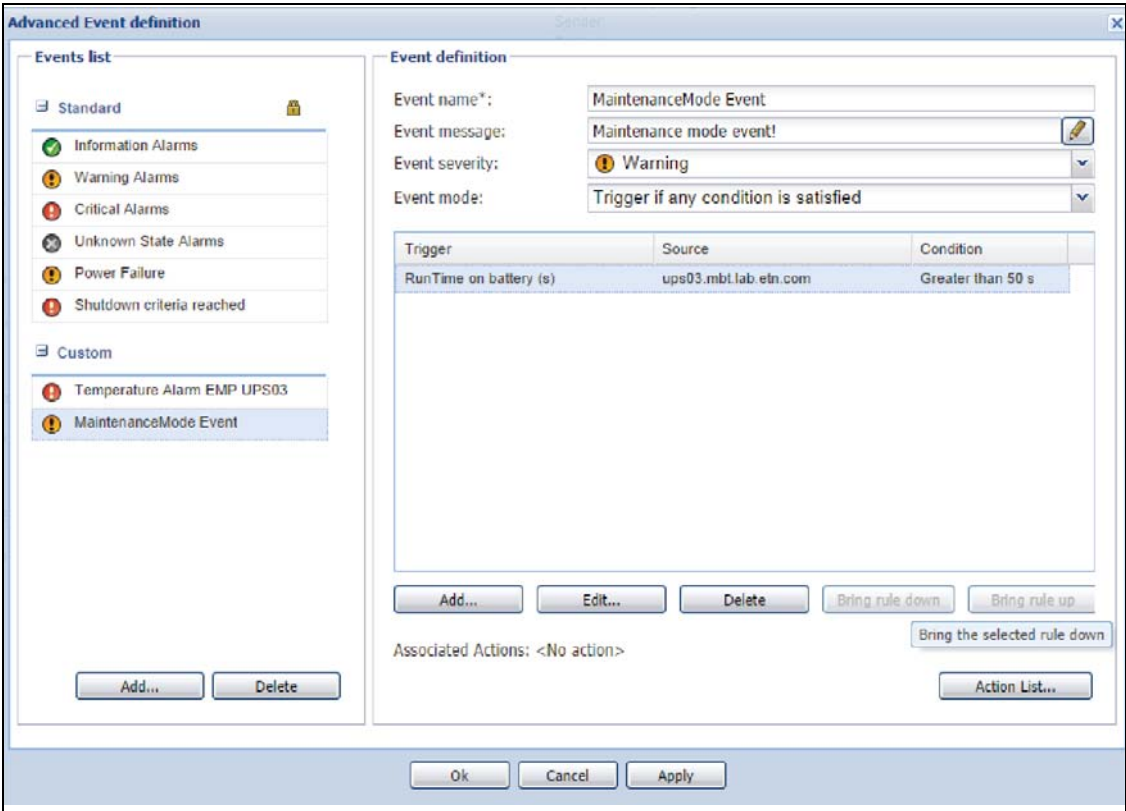
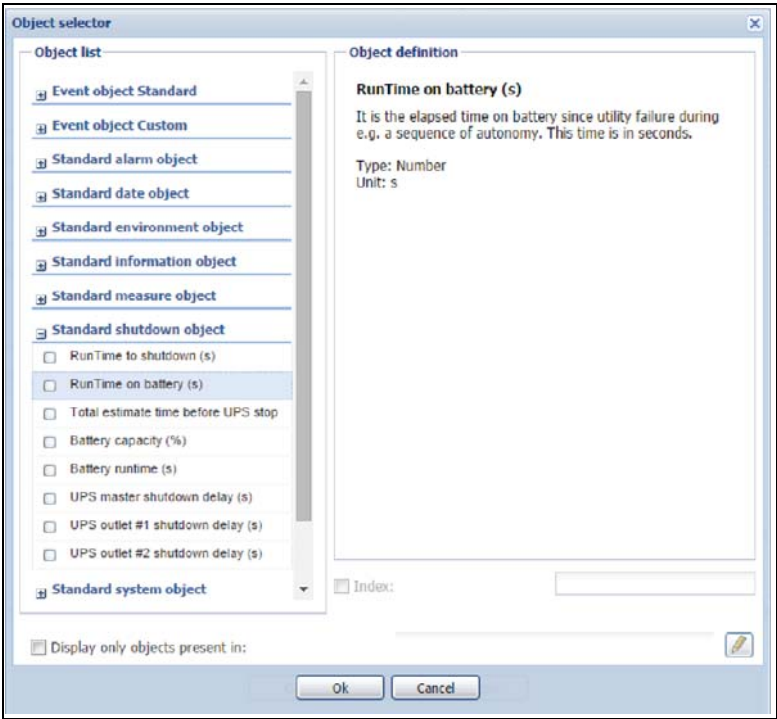

Figure 243. Advanced Event Definition
Figure 244. Object Runtime on Battery
- Add a custom event (see Figure 243 and Figure 244).